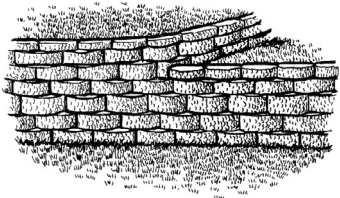

Figure 7
**Stonewall** offers a couple of ways to end the wall along a slope. One is to turn the units into the grade, burying at least one complete block along the incline (Fig. 7).